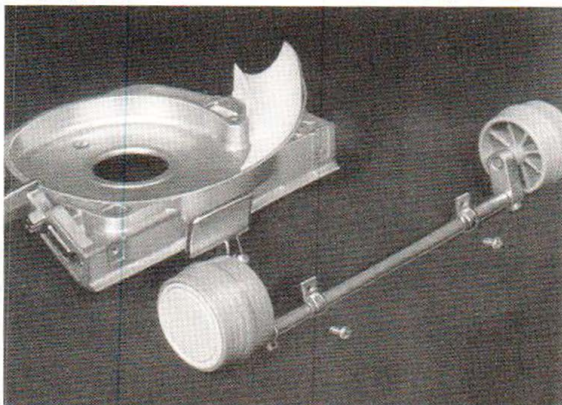

Figure 17. Ratchet Lock and Volute Deflector Removal
1. See Figure 17. Remove two Phillips head screws from bottom of fan case assembly.